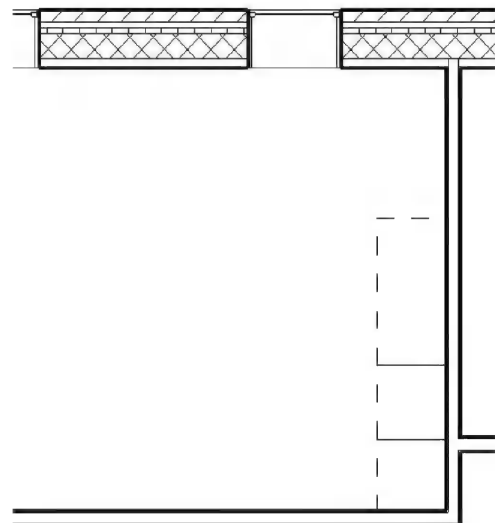

FIGURE 11-2.3 Three base cabinets placed
6. Place the other two base cabinets as shown in **Figure 11-2.3**, with a 24" single door base cabinet in the middle and a 48" sink base to the north end.